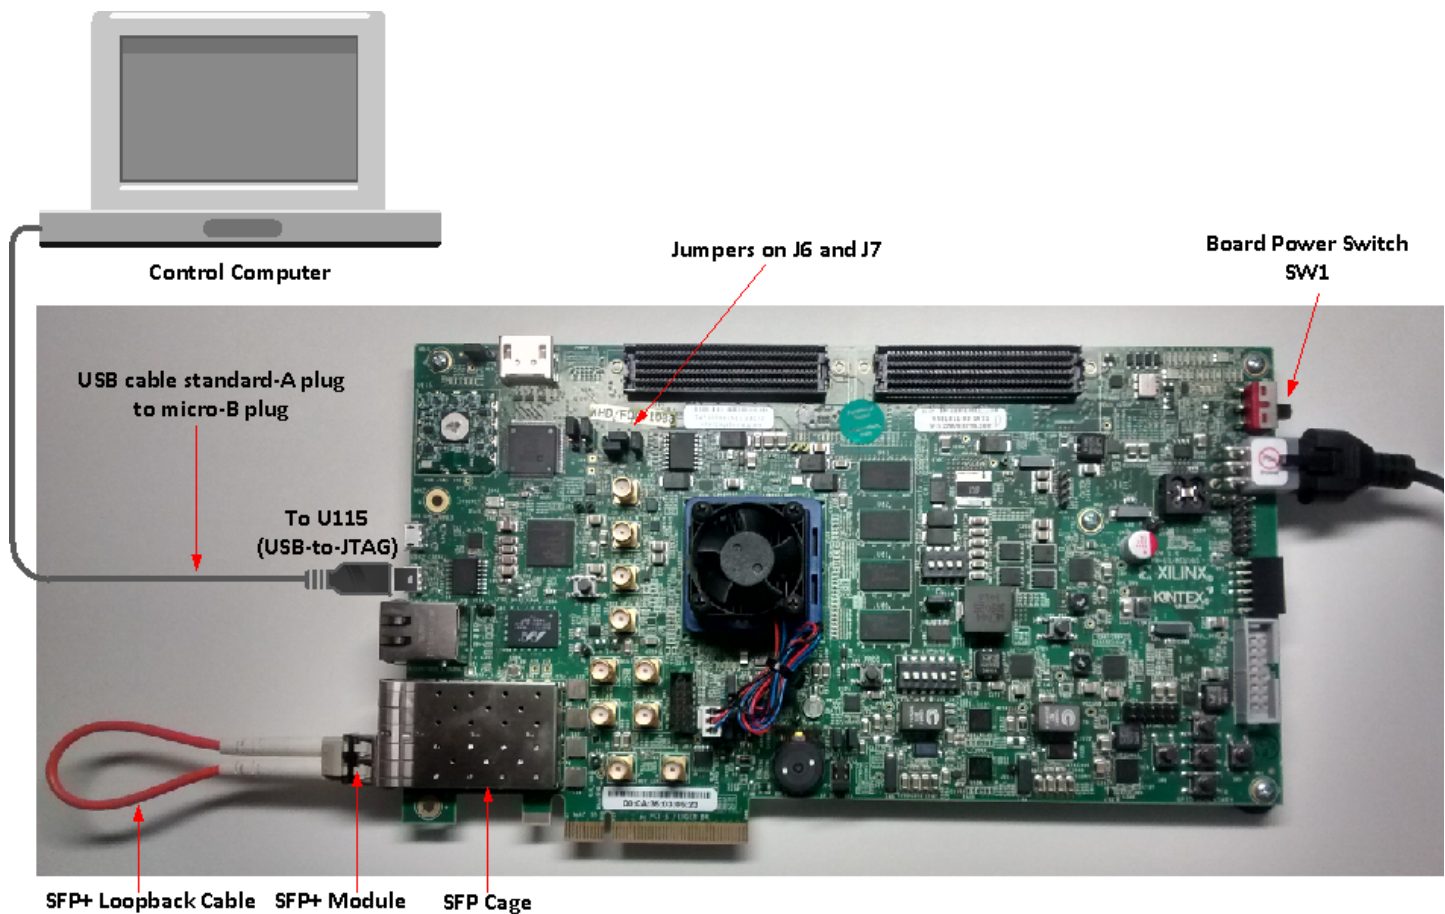

Figure 6: KCU105 Board Setup for Reference Design
Figure 6 shows the KCU105 connection diagram to bring up the Kintex UltraScale design.
3. Set the KCU105 board switches and jumpers as shown in Figure 6.